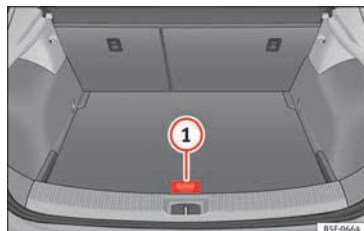

Fig. 178 Luggage compartment: variable floor
- Lift the variable floor using handle » **Fig. 178** ①, pull it back and push the backrest of the rear seat until the movable part of the floor is resting on it.